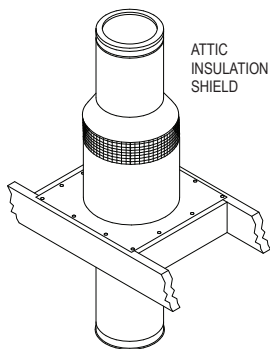

Figure 10
9. Install Attic Insulation Shield: Install the Attic Insulation Shield where the chimney passes into an attic. It's purpose is to prevent debris and building insulation from getting too close to the chimney (**Fig 10**). An installed Attic Insulation Shield is 15 inches high. In attic areas where this shield cannot fit, you must enclose the attic portion of the chimney in a framed enclosure. If the chimney is fully enclosed through the attic, an Attic Insulation Shield is not required. Where the chimney passes into the attic, install the Attic Insulation Shield as follows:
- d. Secure the Attic Insulation Shield to the top of the framed opening using at least (3) 8-penny nails or (3) #8, 1-1/2" wood screws per side (**Fig 10**).